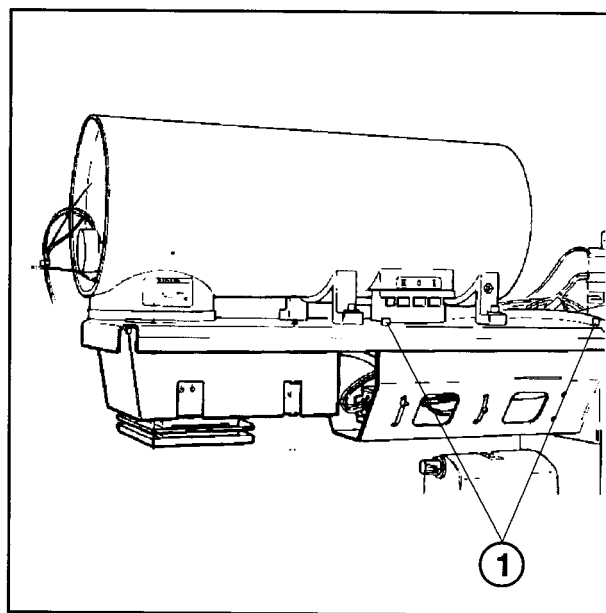

Fig. 3
- It is possible to adjust the radiation field to the image receptor by loosening the screws (1/Fig. 3) on both sides and then displacing the complete assembly. See also chapter "Checking the radiation field limitation" in the Installation and Start-Up Instructions for MAMMOMAT 300.